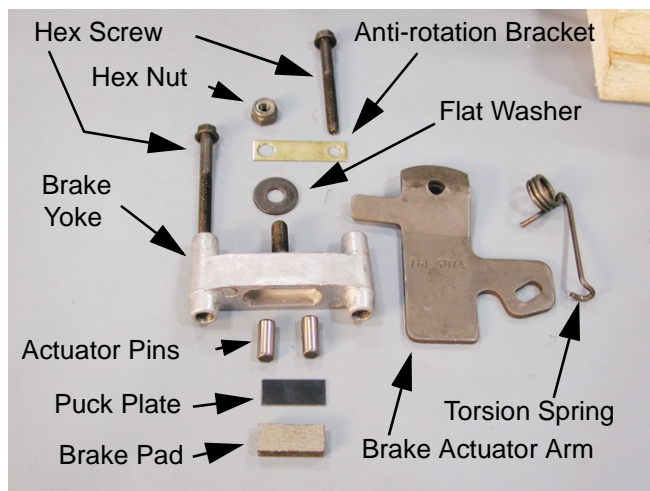

Figure 15
23. Disassemble and inspect the brake assembly for damage or wear. See Figure 15.